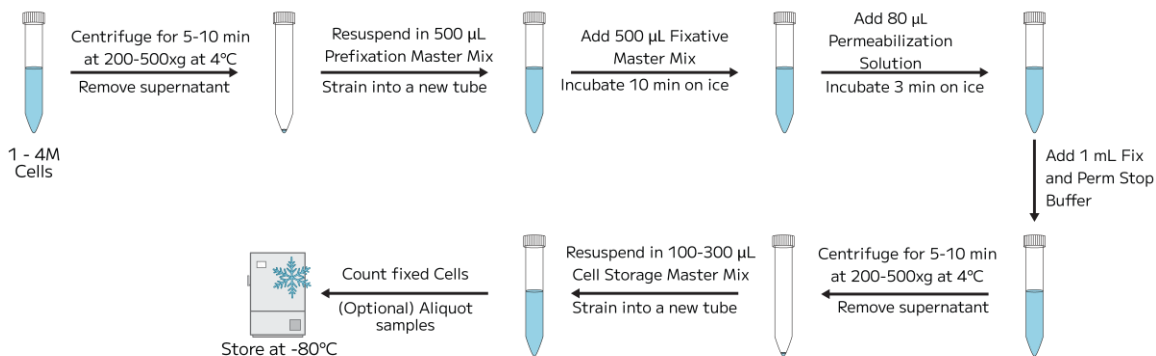

Figure 4: High Input Evercode Cell Fixation JP v4 Workflow.
**Figure 4: Example Centrifugation Optimization Experiment.** In this example, the sample is first centrifuged at 200 x g for 10 minutes. The pellet is resuspended in Cell Storage Master Mix, and the first supernatant is centrifuged again at 300 x g for 10 minutes. The second pellet is resuspended in Cell Storage Master Mix, and the second supernatant is centrifuged again at 400 x g for 10 minutes. This final, third pellet is resuspended in Cell Storage Master Mix and the third supernatant is discarded. The three resuspended pellets are then counted with a hemocytometer. In this example, the cells centrifuged at 400 x g are aggregated with significant debris, so this resuspended pellet should be discarded. Conversely, the cells centrifuged at 200 x g and 300 x g were high quality, so they were pooled together. Once pooled, this sample has ~50% retention. These results suggest that this sample type should be centrifuged at 300 x g. These results suggest that this sample type should be centrifuged at 300 x g throughout all Evercode workflows.